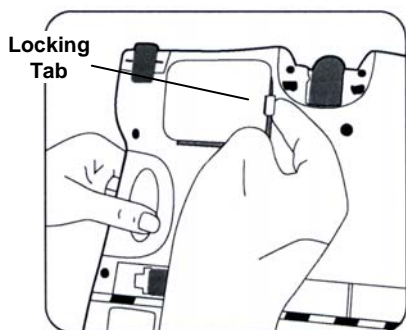

Fig. 9
2. Turn unit over so that the base is facing upwards. Be careful not to turn the unit ON. (Fig. 9)